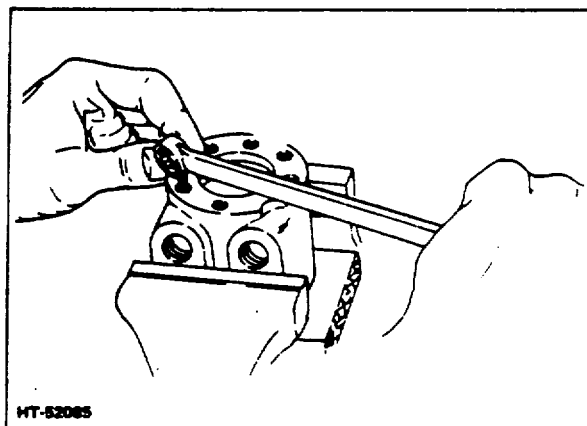

Figure 3-15. Tightening Check Valve Seat
- Place the check valve seat on hex wrench and install it in the check valve hole so the machined counterbore seats on the ball. Tighten the seat to 150 lb-in (Fig 3-15). Check ball action by pushing ball against the spring force with a small pin.